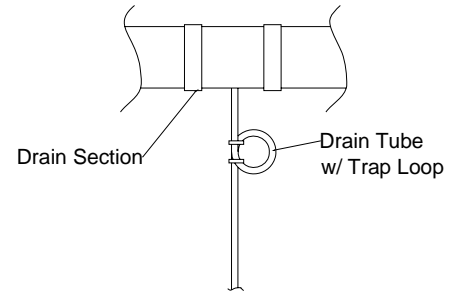

Fig. 3B (In-Line Drain Section and Drain Tube)
- Use the In-Line Drain Section for a straight horizontal run. Rotate the fitting so that the drain tube points downward and is as vertical as possible (See Fig. 3B).